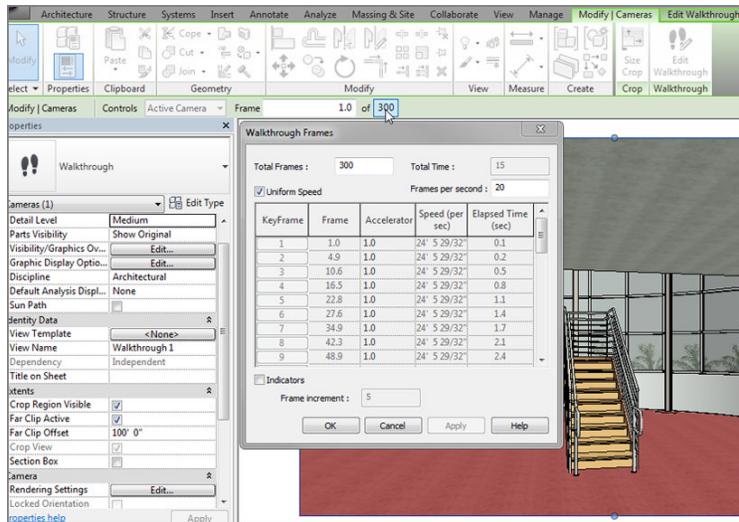

FIGURE 19.22: Changing the frames
15. When the walkthrough is finished, click the button that contains the value 300 (the number of frames) on the Options bar, as shown in Figure 19.22.